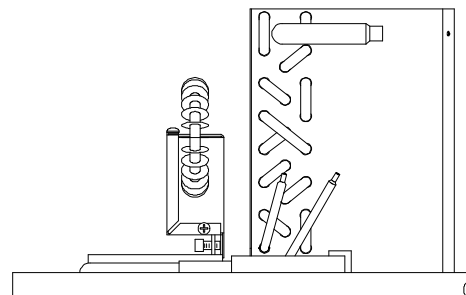

FIGURE 6
1. Position the heater assembly into the return air opening as shown in Figure 4. Insure that the set screw is retracted sufficiently to allow installation over the basepan extrusion (See Figure 6).